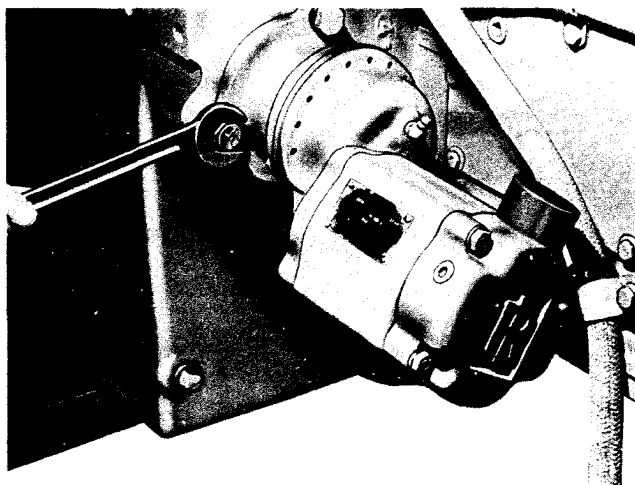

Fig. 0-4, (N10004) Removing air starter
5. Remove capscrews and lockwashers holding motor to flywheel housing. Fig. 0-4.